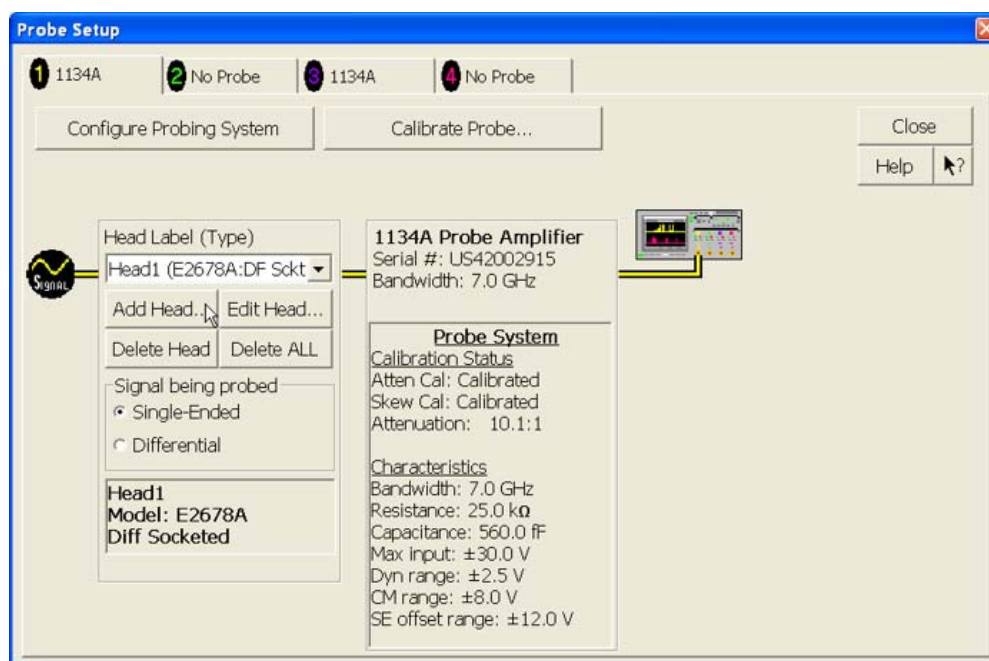

Figure 86 Probe Setup Window.
- 2 Referring to Figure 86 below, perform the following steps: